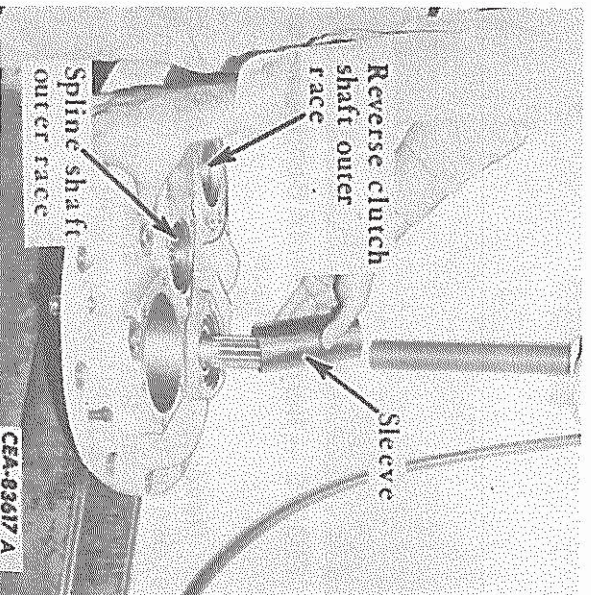

FIG. 77 — Installing the Forward Clutch Shaft
42. Both the ball bearing for the forward clutch shaft and the straight roller bearing outer race for the spline shaft should be pressed in the transmission front cover until they bottom against a shoulder in their respective bores. If the reverse clutch shaft outer race was removed, or if a new one is to be installed, it should be installed with the lip of the outer race facing up. Press it in until the lip is not more than 6.35mm (1/4 in.) past the start of the bore. The proper distance will be adjusted later with the shims (Fig. 77).
43. Place the forward clutch shaft in a press and let the lower end of the shaft rest on blocks. Do NOT rest the clutch shaft on the gears. Position the transmission front cover so the ball bearing is over the shaft. Then place a sleeve over the shaft that has an I.D. that will rest on the face of the inner race of the bearing. It should be deep enough to allow the bearing to be pressed all the way on the shaft before bottoming out. Support the transmission front cover by hand while the bearing is being pressed on the shaft. The bearing should bottom against the reverse drive gear. The install the snap ring (Fig. 77).